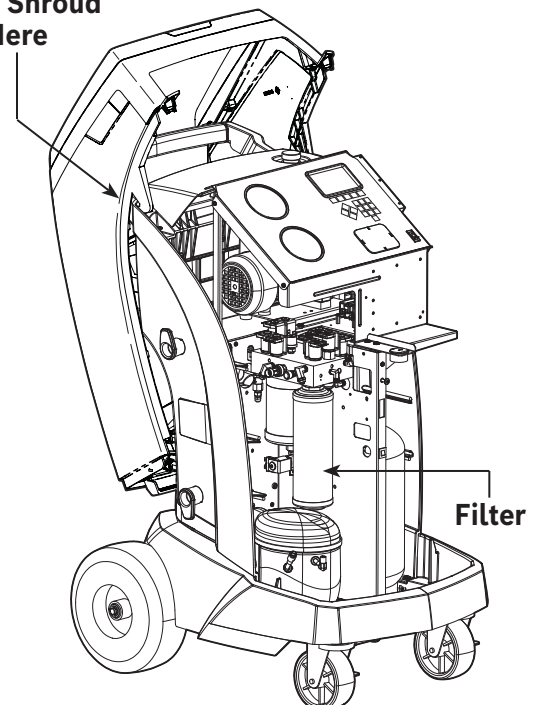

Figure 11
3. Hang the shroud on the back of the machine as shown in Figure 11.
6. Install the new filter by threading it clockwise into place. Verify the filter is positioned correctly as shown in Figure 11. Tighten the filter to 20 Nm.
4. Hang the shroud on the back of the machine as shown in Figure 11.